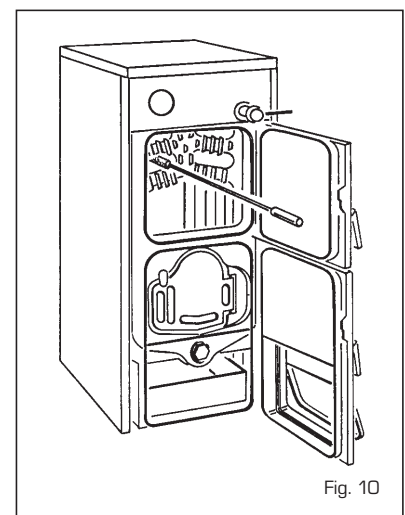

Fig. 10
- The installation where the boiler is connected to, should be preferably with an open expansion tank (fig. 10).